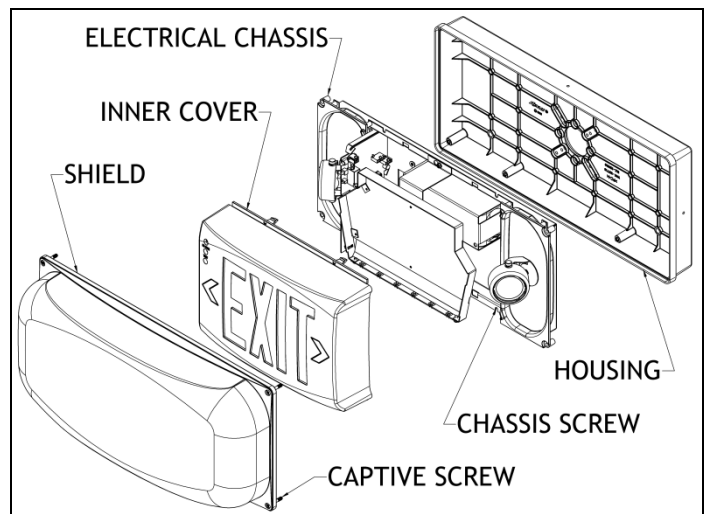

Figure 1
**Disassembly** (Figs.1, 2): Remove SHIELD by loosening (4) CAPTIVE SCREWS at corners. Remove INNER COVER by disengaging snaps where shown. Loosen (2) screws retaining REFLECTOR ASSEMBLY. Shift and remove. Remove (4) CHASSIS SCREWS and set aside for reuse. Remove ELECTRICAL CHASSIS assembly.
**Wiring** (Figs. 1, 2, 5, 6): Reinstall ELECTRICAL CHASSIS assembly using the CHASSIS SCREWS, observing proper orientation (PC board at left), routing 12” supply wire pigtails through opening in GEAR TRAY. Connect supply ground to GROUND WIRE provided. Connect supply wires to appropriate TRANSFORMER leads. Lead color coding: White= Neutral, Black= 120V, Orange= 277V, Blue= 347V. Separately cap off all unused leads. Connect remote loads (if used) to appropriate terminal blocks. Refer to chart for maximum allowable loads.